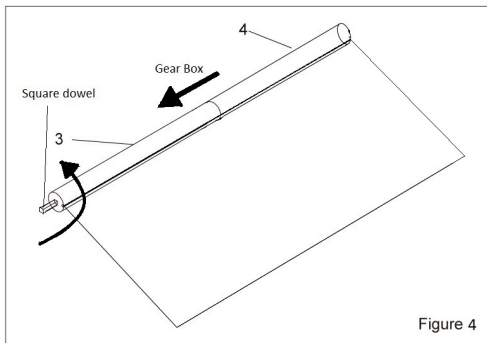

Figure 4
**Figure 4** shows the proper installation of the wall brackets,